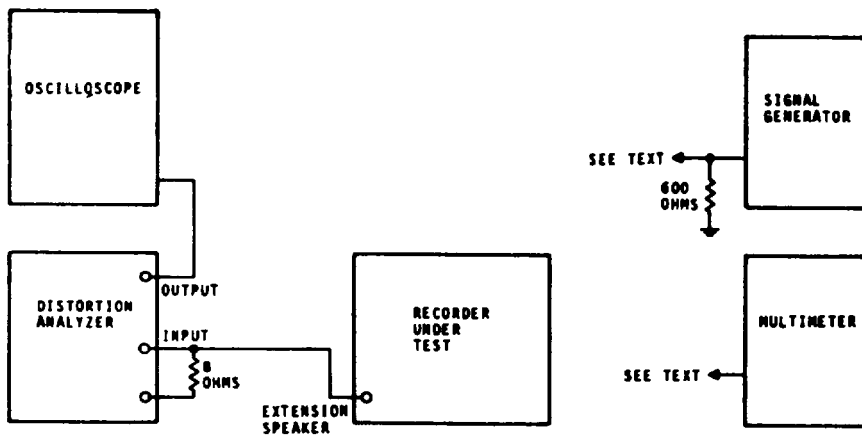

Figure 5-2. Recorder-Reproducer, Test Setup
a. OPERATIONAL TEST. Perform the procedure below to determine that the recorder is operating. Observe that all controls are functioning as the procedure is performed. Refer to test setup diagram, figure 5-2 for general test setup.
(1) Place a full reel of tape on the feed reel pedestal and